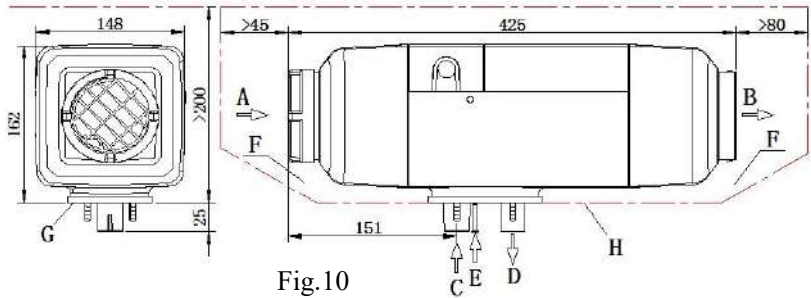
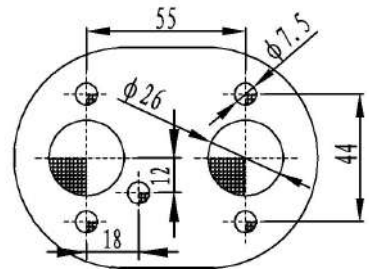

Fig.10
Fig. 11
4.2.2 For convenience of heating air flow and installation, maintenance of the main heater, enough space must be provided for installation. Please refer to the scope of double dot line for the space for installation, as shown in Fig. 10.
Please make sure that there is not any foreign matter in the gap between the bottom surface of the main heater and the installation surface of the vehicle (Fig. 10-F).
4.2.3 Good sealing is necessary between the main heater and the installation surface on the vehicle. A special gasket (as shown in Fig. 10) supplied by the manufacturer must be inserted in between during installation. The installation surface must be smooth and steady enough. Its parts at the installation bases of the main heater shall have unevenness of less than 1mm. After drilling installation holes, evenness must be improved according to this requirement. At installation, please rotate the four M6 nuts, which provided by the manufacturer should be tighten. The torque for tightening shall be 6Nm+1Nm. Please refer to Fig. 11 for positions of installation holes.